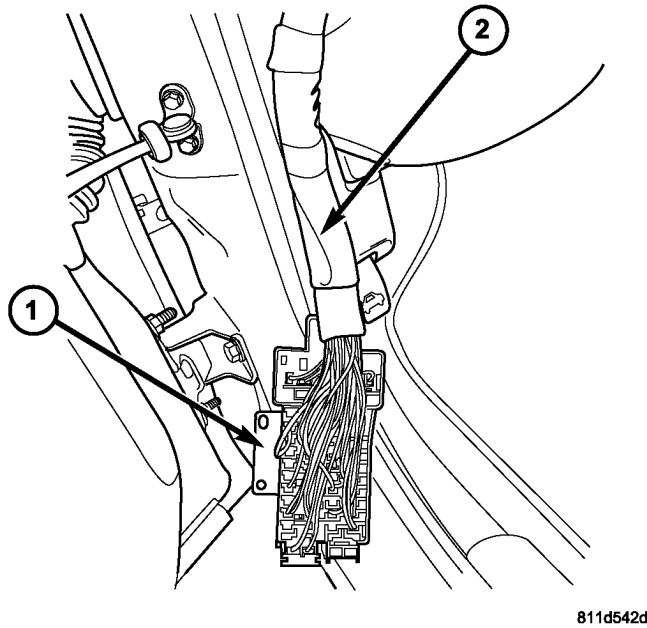

Fig. 4 HARNESS REPAIR COMPLETED
11. Install the covering on the wiring harness (Fig. 4). Apply electrical tape around the covering in a couple of places to secure.